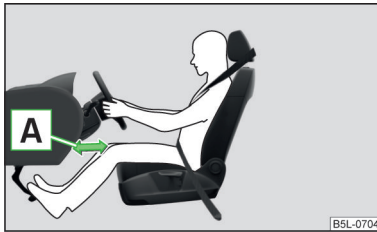

Fig. 144
- Adjust the driver's seat in a forward/back direction so that there is a gap of at least 10 cm between the legs [A] and the dash panel in the vicinity of the knee airbag » Fig. 144. If it is not possible to meet this requirement due to your body size, visit a specialist garage.